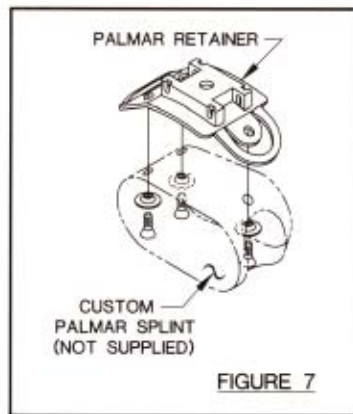

FIGURE 7
- 1) Attach custom palmar splint to palmar retainer using hardware provided as shown in **Figure 7**.